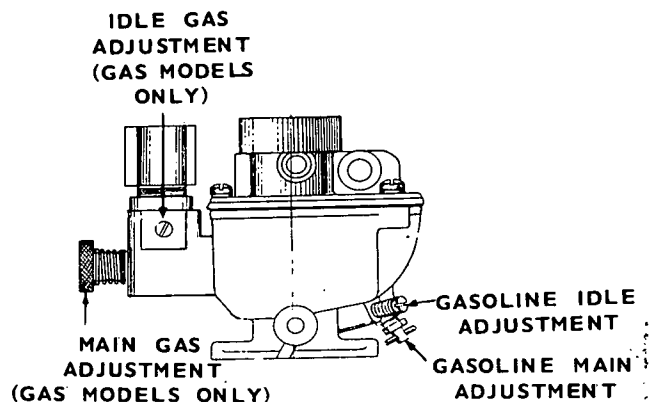

FIGURE 31. CARBURETOR FUEL MIXTURE ADJUSTMENTS
2. Turn in load needle (Figure 31) until engine speed drops. Then turn out needle until engine speed returns to normal.
Allow the engine to warm up if preliminary adjustments are satisfactory for initial startup. If the engine won't start, turn both fuel needles out 1-1/2 turns (3 turns for only 800 BTU gas). These settings should be adequate for starting. The gas carburetor is very similar to the carburetor shown in Figure 31 except for the gasoline adjustment needles.